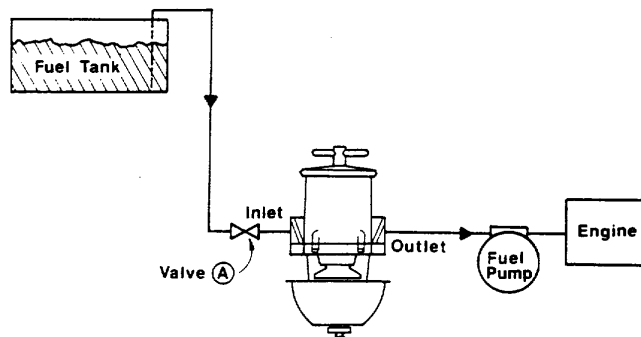

Figure 2
4. On a 500Ma, 900MA, 1000MA, 73/1000A or 77/1000MA unit, a valve must be installed on the inlet side of the filter system. This valve is necessary when changing elements. (See Figure 2 and Accessories Section.)
1. Turn valve "A" off. (See Figure 2.)
11619	Manual Valve-1" NPT (See Fig. 2)